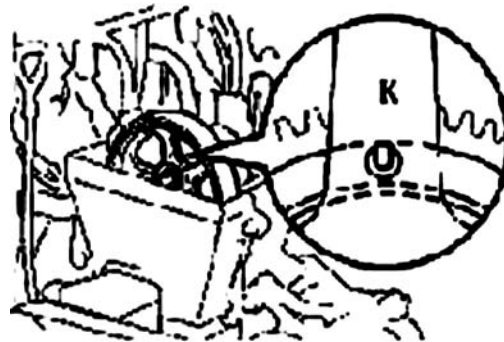

Figure 10
- (b) Align mark "K" on camshaft timing pulley to the timing mark on bearing cap. See (Figure 10) Crank 360° if it is not aligned.